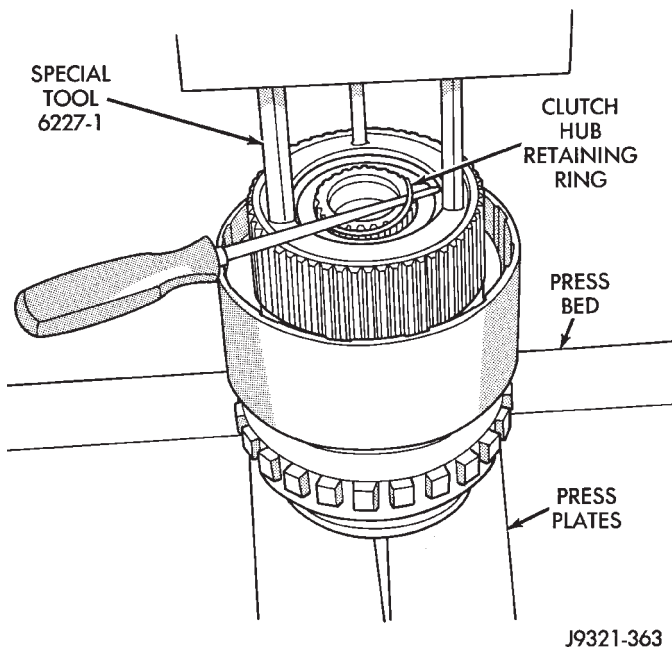

Fig. 199 Direct Clutch Hub Retaining Ring Removal
(5) Remove direct clutch hub retaining ring (Fig. 199).